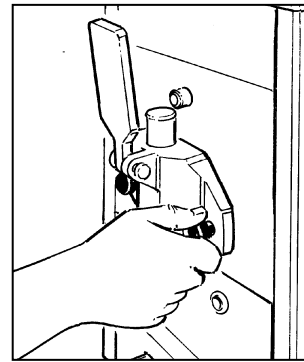

Fig. 20
- **O**nce you have correctly mounted the flange, screw the security knobs right down (fig. 20).